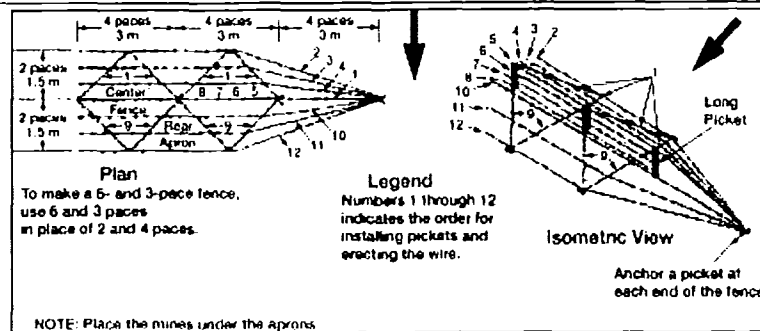

Figure 052-195-3066-1. Double-Apron Fence
- (1) The fence centerline is laid.
- (2) The long pickets are spaced at 3-meter (4-pace) intervals.
- (3) The anchor pickets are spaced at 1.5-meter (2-pace) intervals each way from the centerline and midway between the long pickets.
- (4) All 12 wires are installed. Ensure work is done from the enemy side to the friendly side (figure 052-195-3066-1).